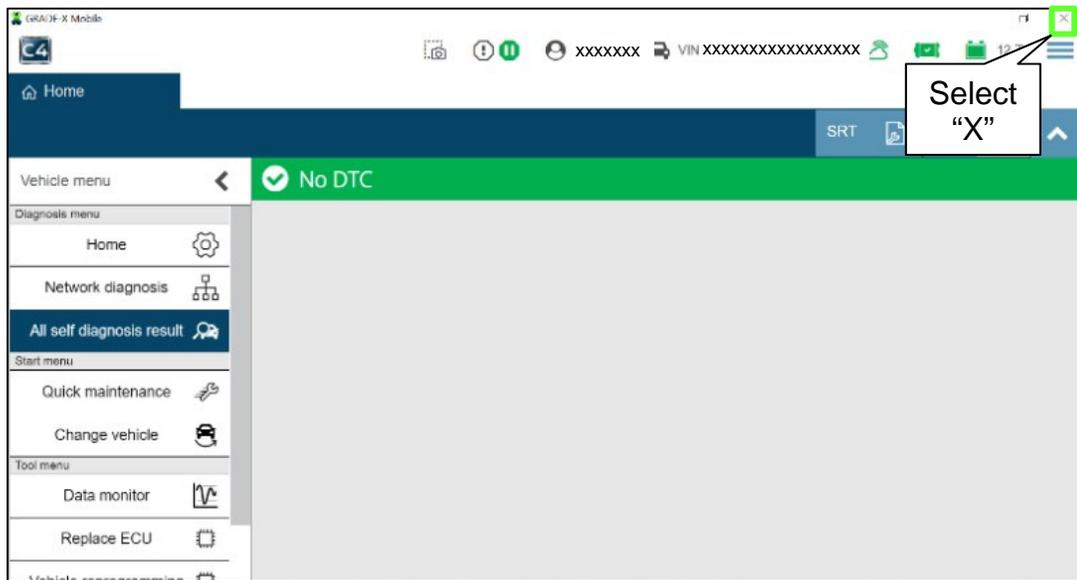

Figure 15
21. Close CONSULT 4 by selecting the “X” in the upper RH corner (Figure 15).